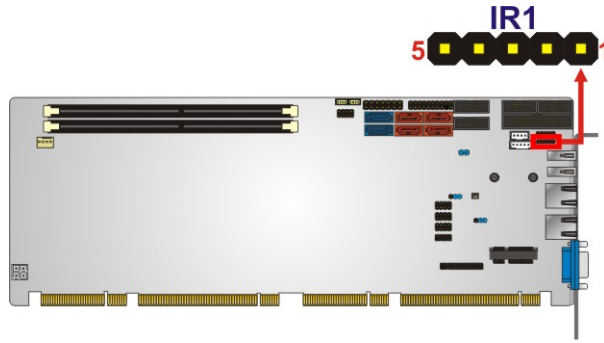

Figure 3-11: Infrared Connector Location
- CN Location:** See **Figure 3-11**